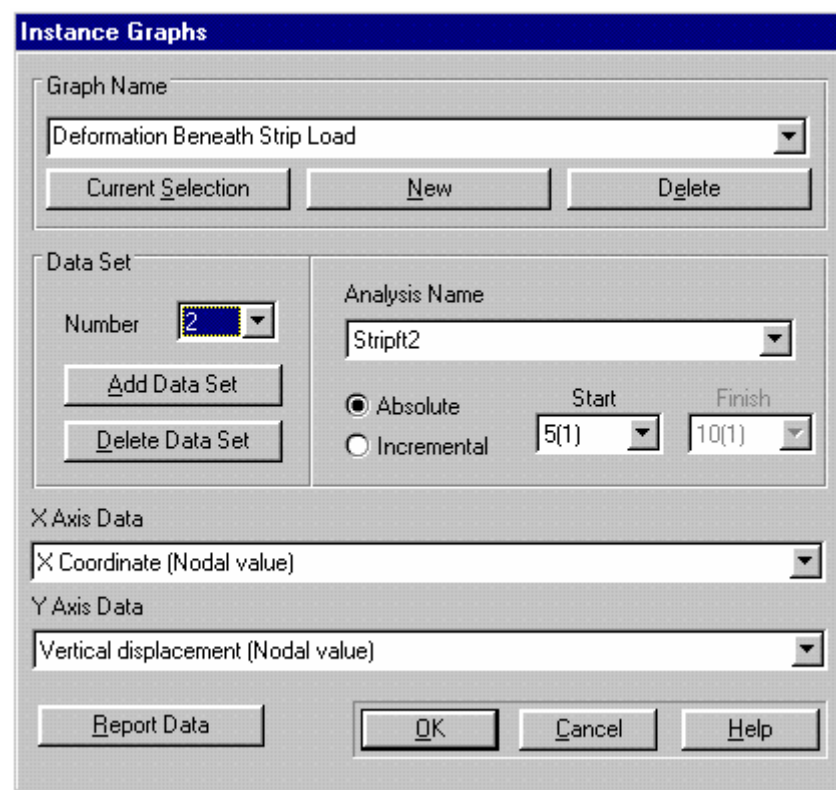

Figure 4-31: Setting Up An Instance Graph
- Step 10** Select **Absolute** and enter the **Start** number as 5. The Instance Graph Dialogue box should look like Figure 4-31.